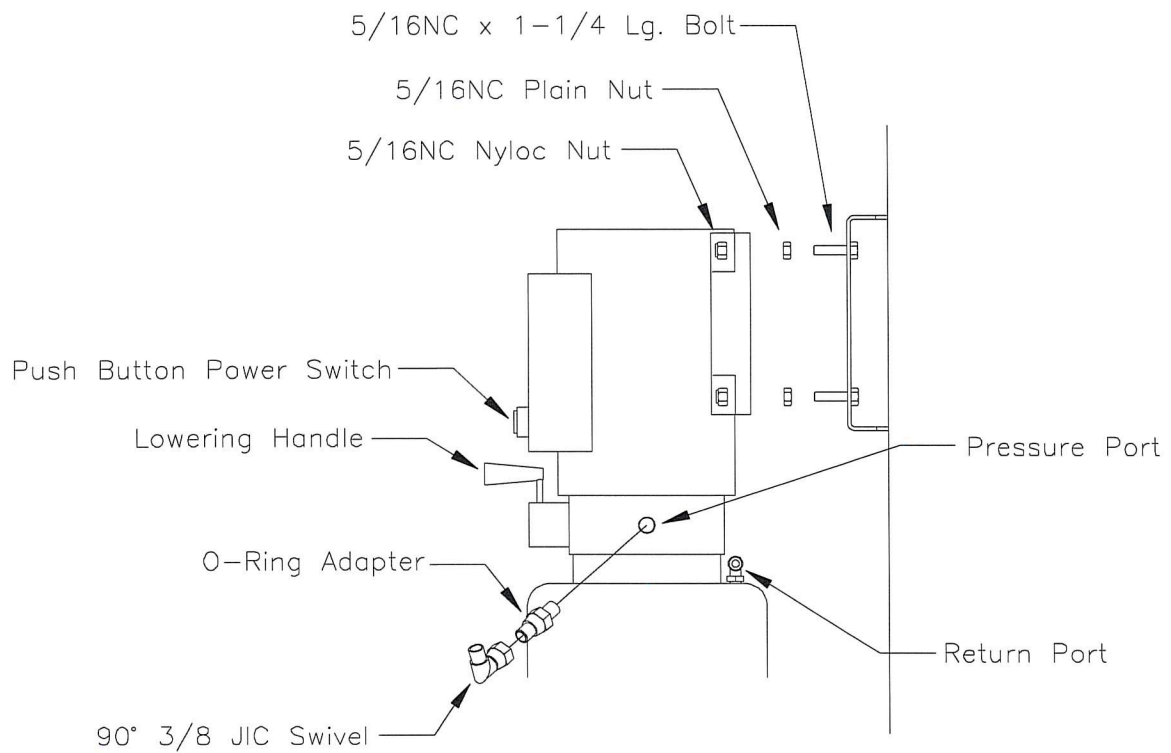

FIGURE 12. GHS Power Unit Installation
17. Refer to Figure 12, Hose Connections. The port immediately to the right of the lowering handle is the high pressure port. Install the O-Ring to 3/8 male JIC adapter into the power unit pressure port.
23. Refer to Figure 12, Hydraulic Hose connections. Install the long hydraulic hose routing from the pressure port on the GHS power unit to the front or rod end of the cylinder. Install the 1/4 plastic tube routing from the back or pin end of the cylinder to the fitting on the back of the power unit tank.